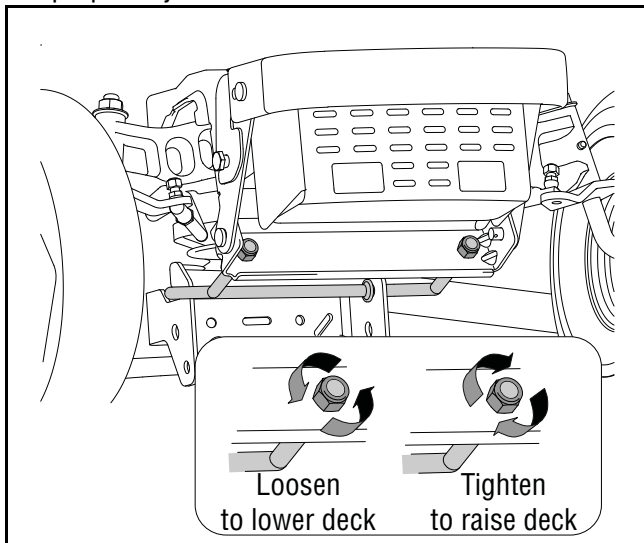

Figure 14
6. Locate the two lock nuts on the front side of the stabilizer bracket. See Figure 14 . Tighten the lock nuts to raise the front of the deck; loosen the locknuts to lower the front of the deck.